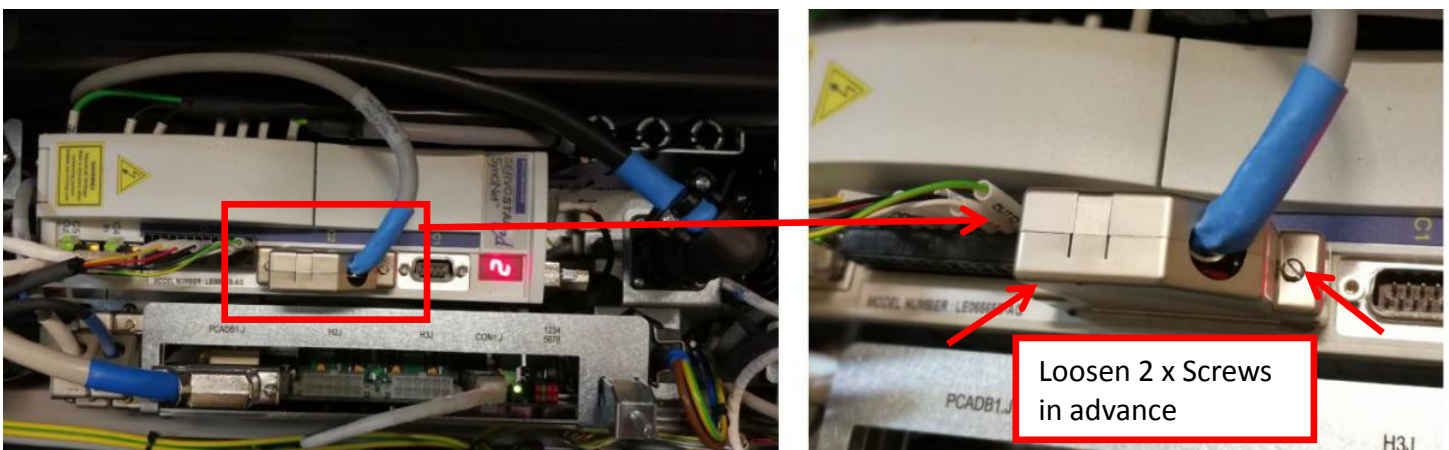

Figure 4
7. Disconnect X-Axis Motor Rotary Cable as Figure 4